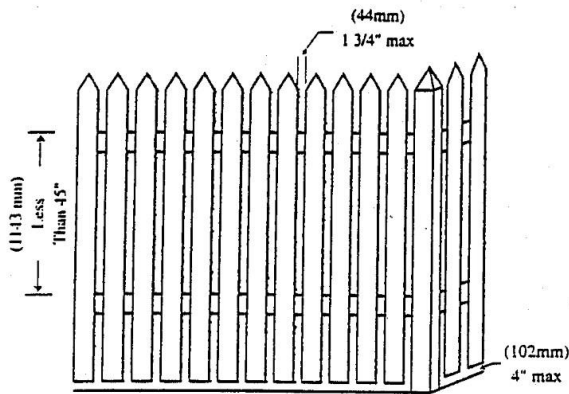

FIG. 1 IF HORIZONTAL MEMBERS ARE LESS THAN 45" (1143mm) APART, THE SPACE BETWEEN VERTICAL MEMBERS SHALL NOT EXCEED 1-3/4" (44mm).
- (1) Horizontal members must be located on the hazard side of the fence if the distance between the tops of the horizontal members is less than 45 inches. Space between vertical members shall not exceed 1 $\frac{3}{4}$ inches. (See Figure 1.)